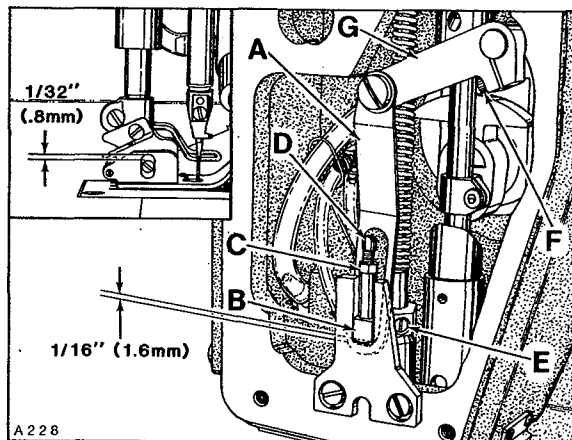
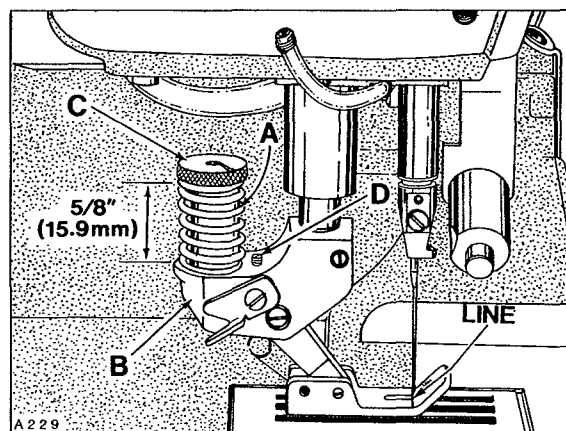

Fig. 22
Fig. 23
With needle bar at bottom of stroke and presser foot resting on throat plate, there should be 1/32 inch (.8mm) clearance between top of screw and top of slot in presser foot as viewed in Figure 22. There should be 1/16 inch (1.6mm) clearance between bottom of slot in lifter lever link (A) and bottom of presser bar guide (B) when foot lifter lever is released. If adjustment is required, loosen nut (C) and turn screw (D) down approximately 1/8 inch (3.2mm) below bottom surface of presser bar guide (B). Back off presser spring regulating screw and loosen screws (E) in presser bar guide (B) so that presser foot rests squarely on throat plate and screw (D) is touching the bottom of presser bar guide plate, then retighten screws (E).
With presser foot resting on throat plate, the distance from top of spring (A, Fig. 23) to top of yoke (B) should be 5/8 inch (15.9mm) and the line stamped across the
Remove presser spring regulating screw, presser bar spring guide and presser bar spring. Loosen nut (C, Fig. 22) and turn screw (D) down approximately 1/8 inch (3.2mm) below bottom surface of presser bar guide (B). Loosen screws (E) in presser bar guide (B). Adjust spring regulator nut (C, Fig. 23) as required, so its lower surface is 5/8 inch (15.9mm) from top of yoke (B) as viewed in Figure 23. With presser foot resting on throat plate and feed dog down below throat plate, press down on spring regulator nut (C) until the marks in presser foot bottom align with centerline of needle and positioned to keep needle in center of needle slot. Tighten screws (E, Fig. 22) securing presser bar guide to presser bar, ensuring stop screw (D) in presser bar guide is resting on bottom of presser bar guide plate.
Replace presser bar spring, spring guide and spring regulating screw. Turn regulating screw down until the top of its threaded portion is level with head casting. Rotate handwheel to position feed below throat plate with presser foot resting on throat plate. Depress presser foot lifter lever to see if presser foot bottom moves SLIGHTLY towards the rear before presser foot begins to lift. Adjustment can be made by turning stop screw (D, Fig. 23) clockwise to shorten or counterclockwise to lengthen the distance of travel.
Loosen screw (F, Fig. 22) in lifter arm (G) and rotate arm slightly as required to obtain 1/16 inch (1.6mm) clearance between link (A) and guide (B); retighten screw (F) ensuring no left to right shake in lifter arm (G).
Purpose of the feeding presser foot is to make top and bottom plies of material feed the same amount without pulling on the bottom ply. Final adjustment may be required to match plies; turning nut (C, Fig. 23) to increase pressure on spring (A) will tend to feed the bottom ply more... decreasing pressure will tend to feed the top ply more.